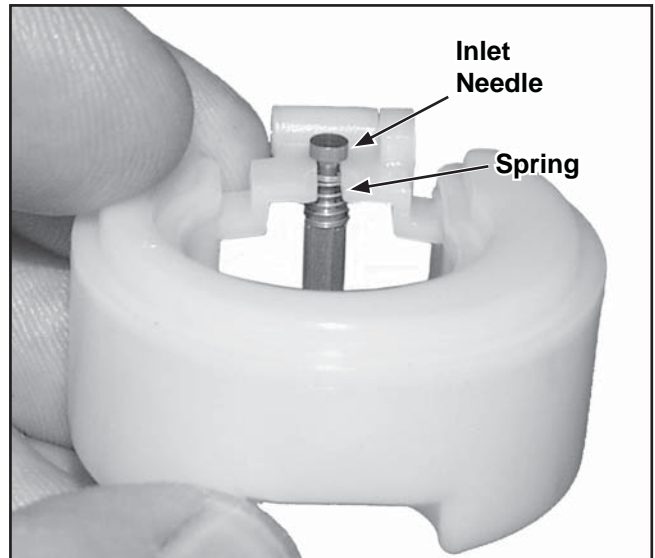

Figure 5-12. Float, Inlet Needle, and Spring.
12. Install the float and inlet needle down into the seat and carburetor body. Insert the new pivot pin through the float hinge. See Figure 5-12.